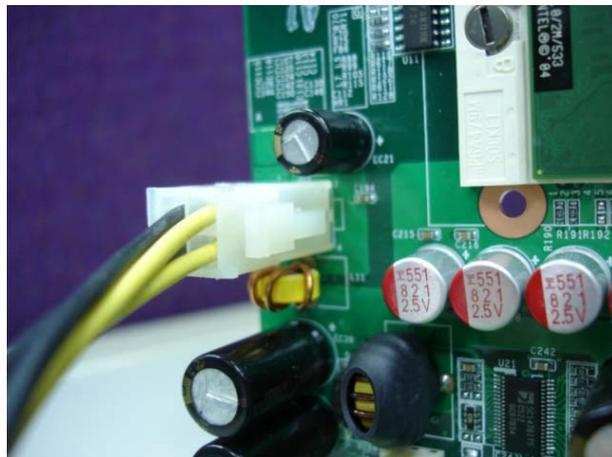

Figure 5-2
Step2: The CPU supplementary power connector (J25) should be connected at all time for this P4 system to run properly. (Figure 5-2)